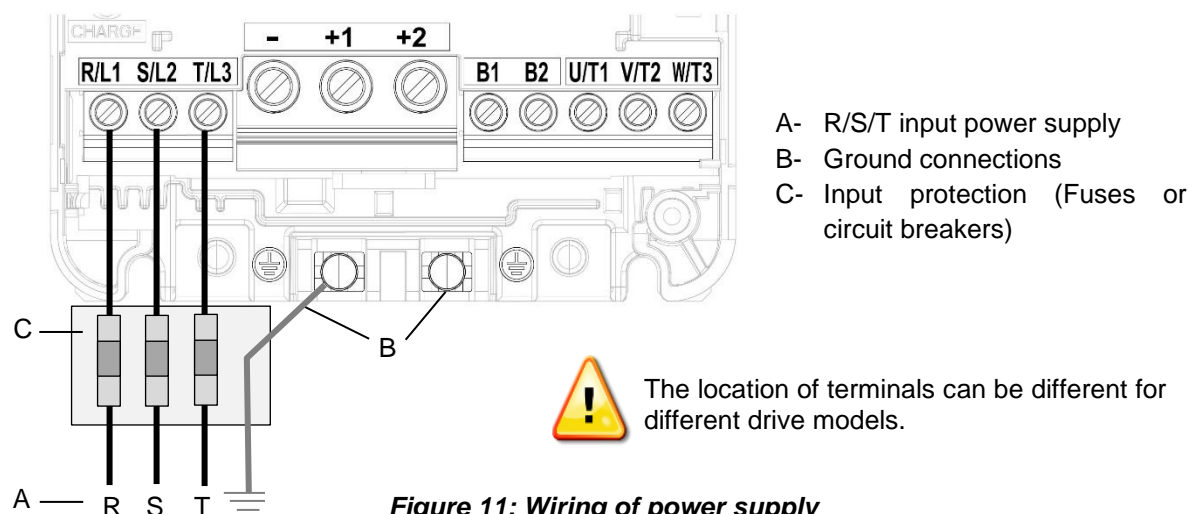

Figure 11: Wiring of power supply
3.3.1 CONNECTION OF THE MAIN POWER SUPPLY: Perform wire connections between the power supply and the drive as shown in Figure 11. Follow GA700/L1000H Yaskawa technical manuals as reference.